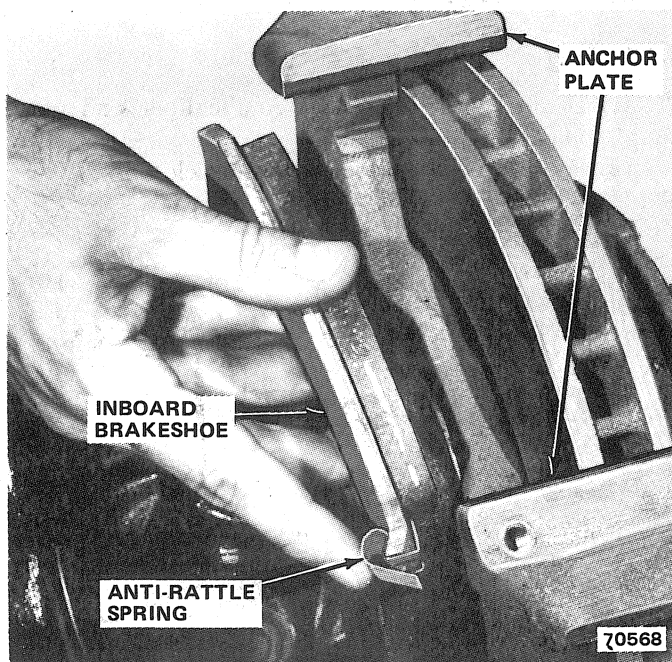

Fig. 2G-49 Inboard Brakeshoe and Anti-Rattle Spring Removal
(11) Remove anti-rattle spring from inboard brakeshoe (fig. 2G-49). Note spring position for assembly reference.
(12) Remove outboard brakeshoe from caliper.
(13) Clean caliper interior using shop cloths only.